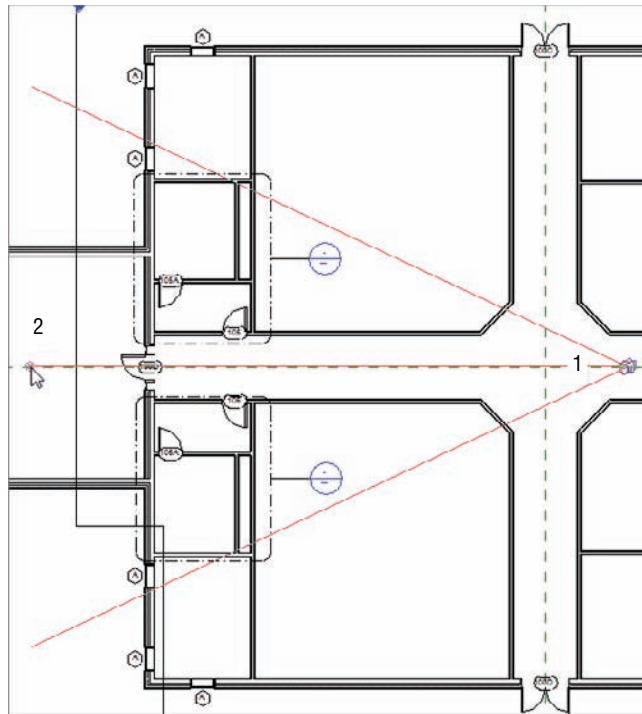

FIGURE 3.70 Placing the camera view in the main corridor
3. Pick a point in the main corridor of the east wing, and move your cursor to the left, down the hallway. You want to take a perspective view as if you were standing in the intersection of the two main corridors, as shown in Figure 3.70.